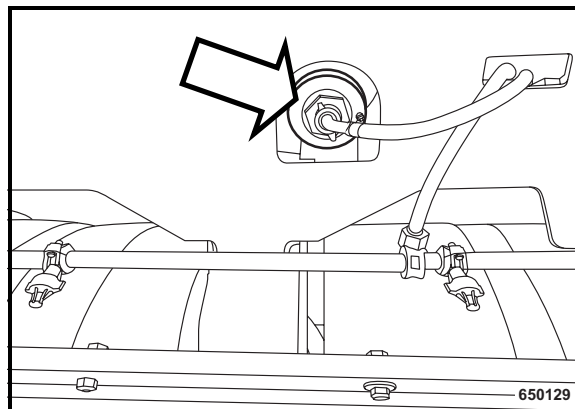

Fig. 166
- Open the rear flap, unscrew the screw plug for water provision (Fig. 166) and let all water run out (only AC machines).